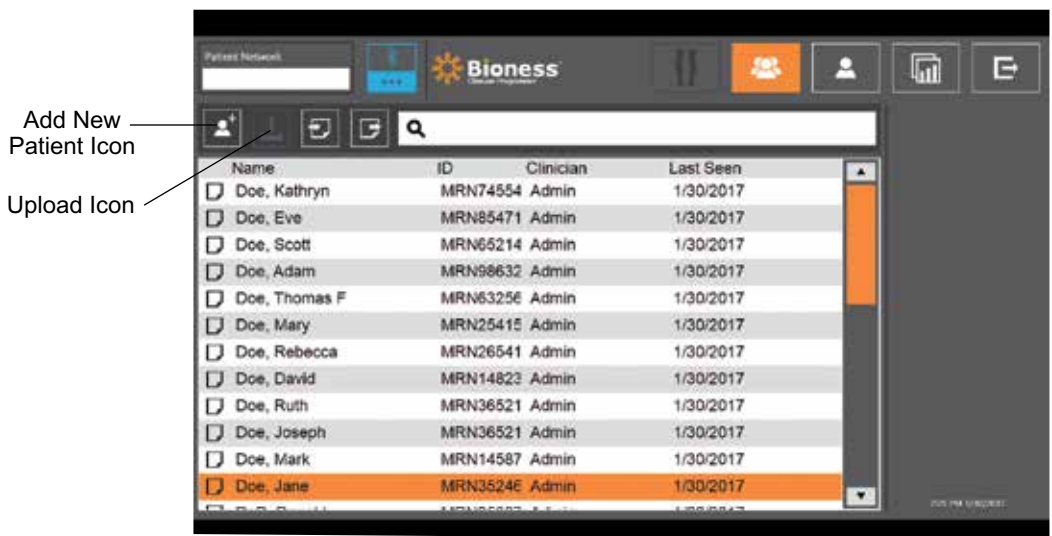

Figure 9-2: Add New Patient Icon
2. From the Patient Database Screen, press the Add New Patient icon. See Figure 9-2.
2. Open the Patient Database Screen and highlight the patient from the Patient List. See Figure 9-2.
3. Press the Upload icon. See Figure 9-2. A window will appear stating "Program all stimulators with patient: X,X". Press the Continue button.